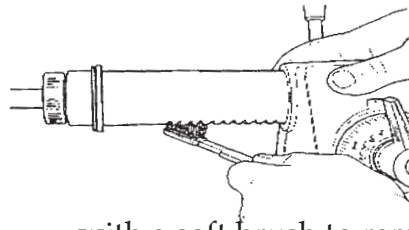

Figure E-1
4. Extend the quill as far as it will go, lock it in place. With a small stiff brush, brush off the teeth on the bottom of the quill, as demonstrated in Figure E-1.